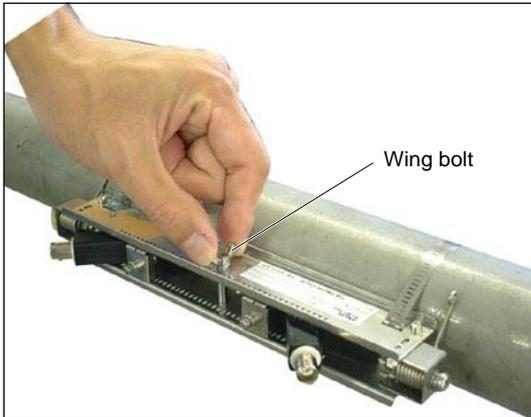

Fig. 3-40
- (1) Loosen the wing bolt located at the middle of frame by 3 to 4 turns (Fig. 3-40).